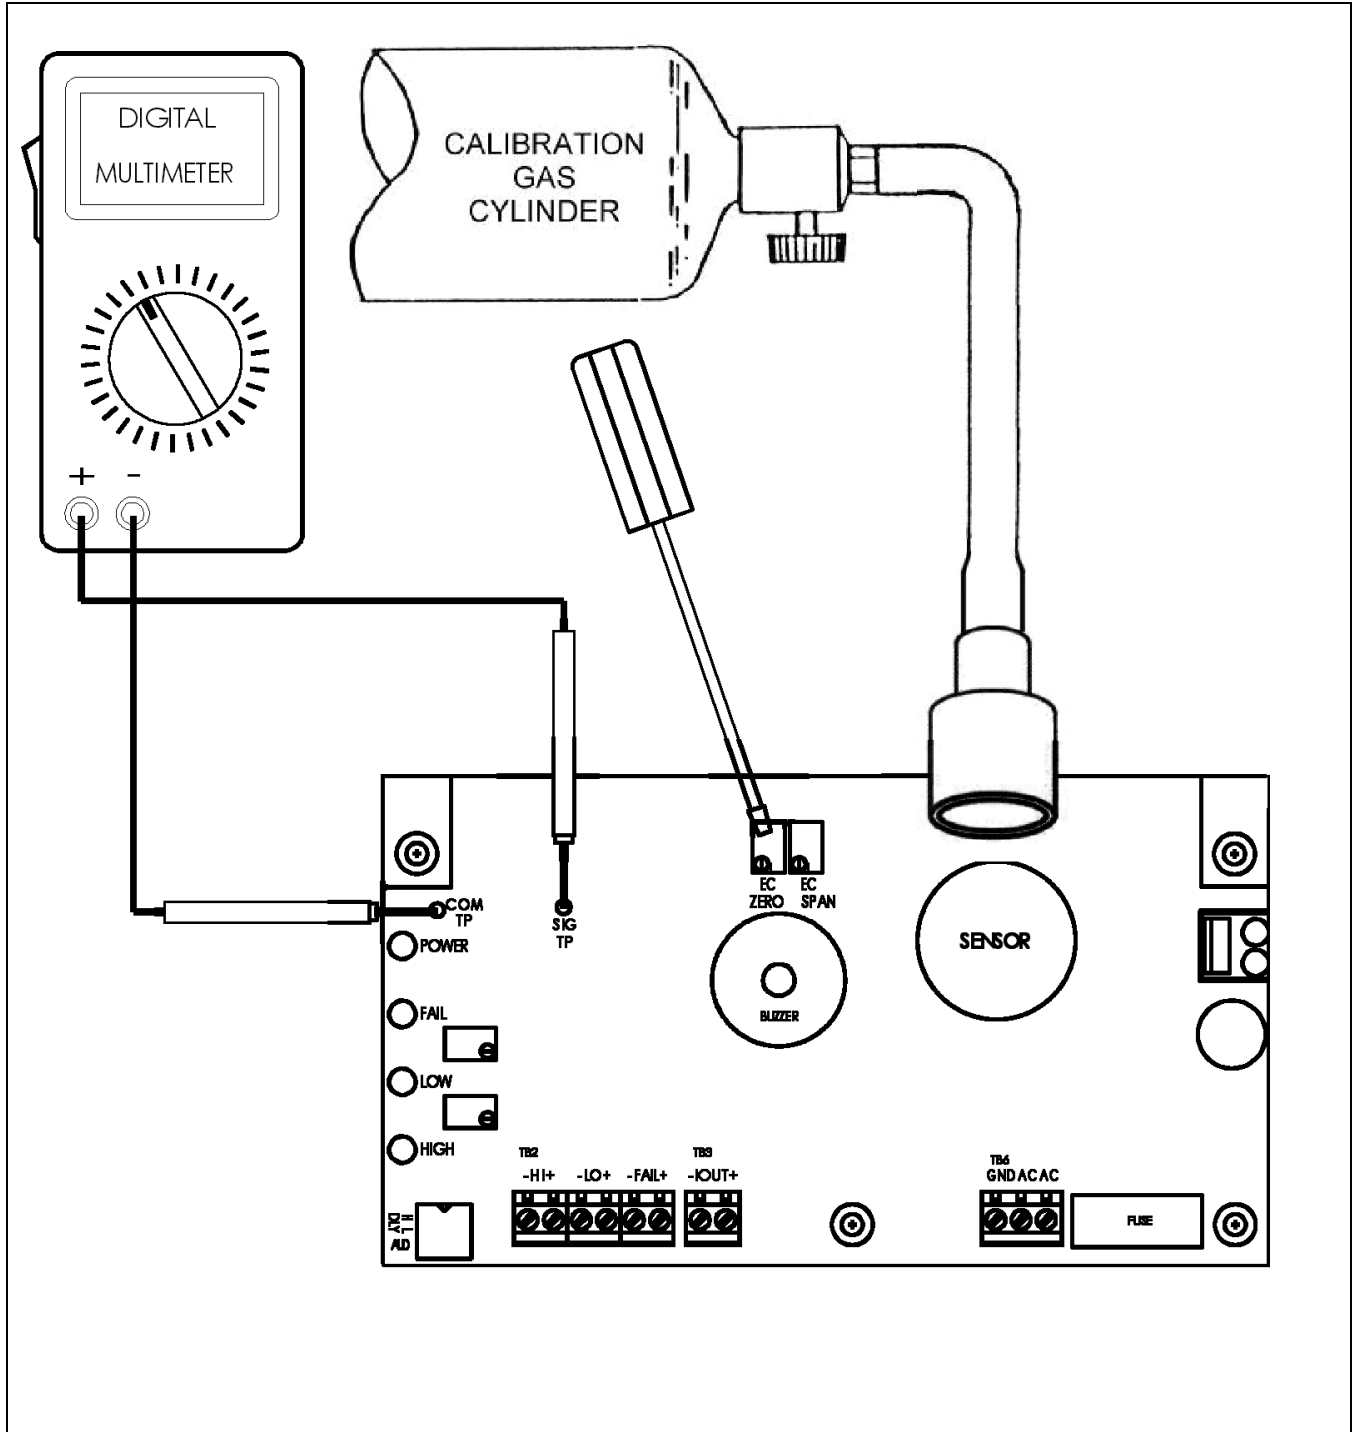

Figure 6: Calibration setup
Refer to Figure 6 to perform the following procedure
- 4) Insert Test Probe Tips into test points of PCB in the Upper Left area (see Figure 6.)
When the sensor needs replacing, reorder the “Sensor Part Number” listed in Product Information, page 3. See Figure 6 for sensor replacement and wiring procedure.